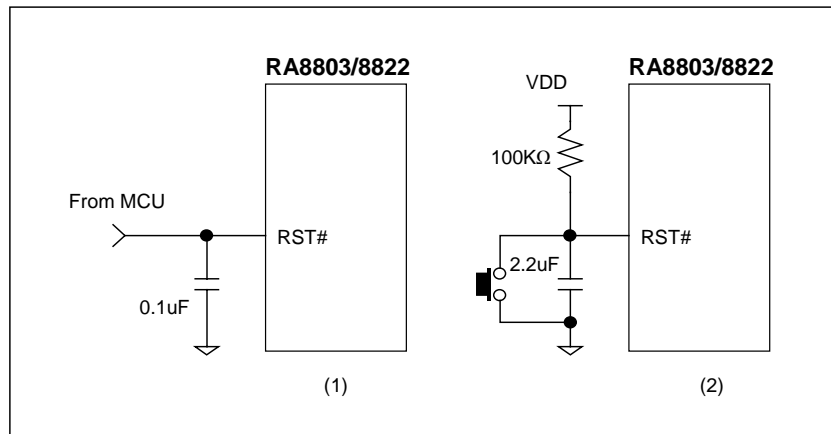

Figure 8-2 : Examples of RST# Pin
Figure 8-2 is an example for RST# application circuit. It could be controlled by MPU such as (1) of Figure 8-2. Or, generated by a RC circuit such as (2) of Figure 8-2. If the RA8803/8822 did not complete Reset it will refuse the command from MPU. And it's possible to cause system setup error.